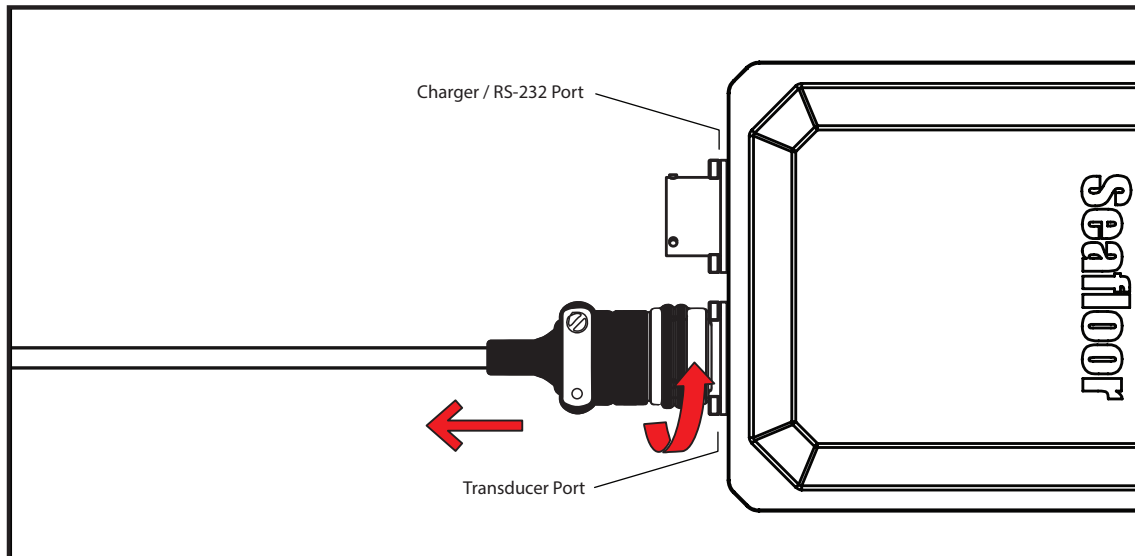

Figure 9: Topside Powering Off
1. Using Figure 9, disconnect the transducer connector from the transducer port.